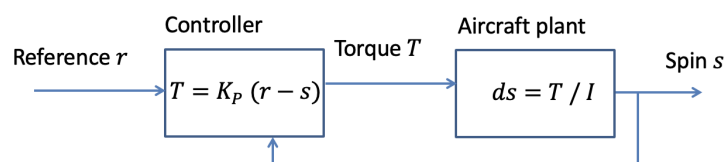

Figure 3: Completed block diagram.
- (f) The completed block diagram is shown in Figure 3. The controller box contains $T = K_p \cdot (r - s)$ and the plant box contains $\dot{s} = T/J$.